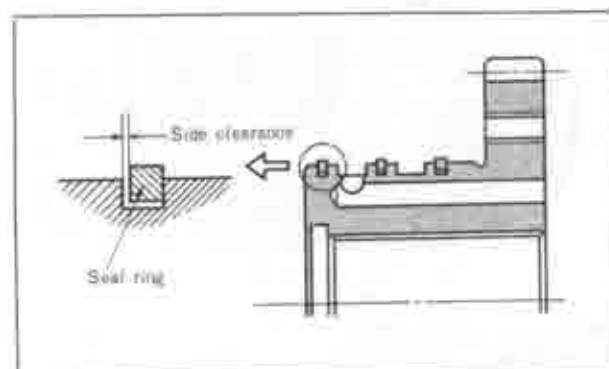

Fig. 2-36 Clearance of oil seal ring
6. Check the side clearance between the sealing and groove as shown in Fig. 2-36. The standard clearance is 0.04~0.16 mm (0.002~0.006 in.). When disassembling the seal ring, squeeze it up so that its joint will rise above the groove, and disconnect the joint.